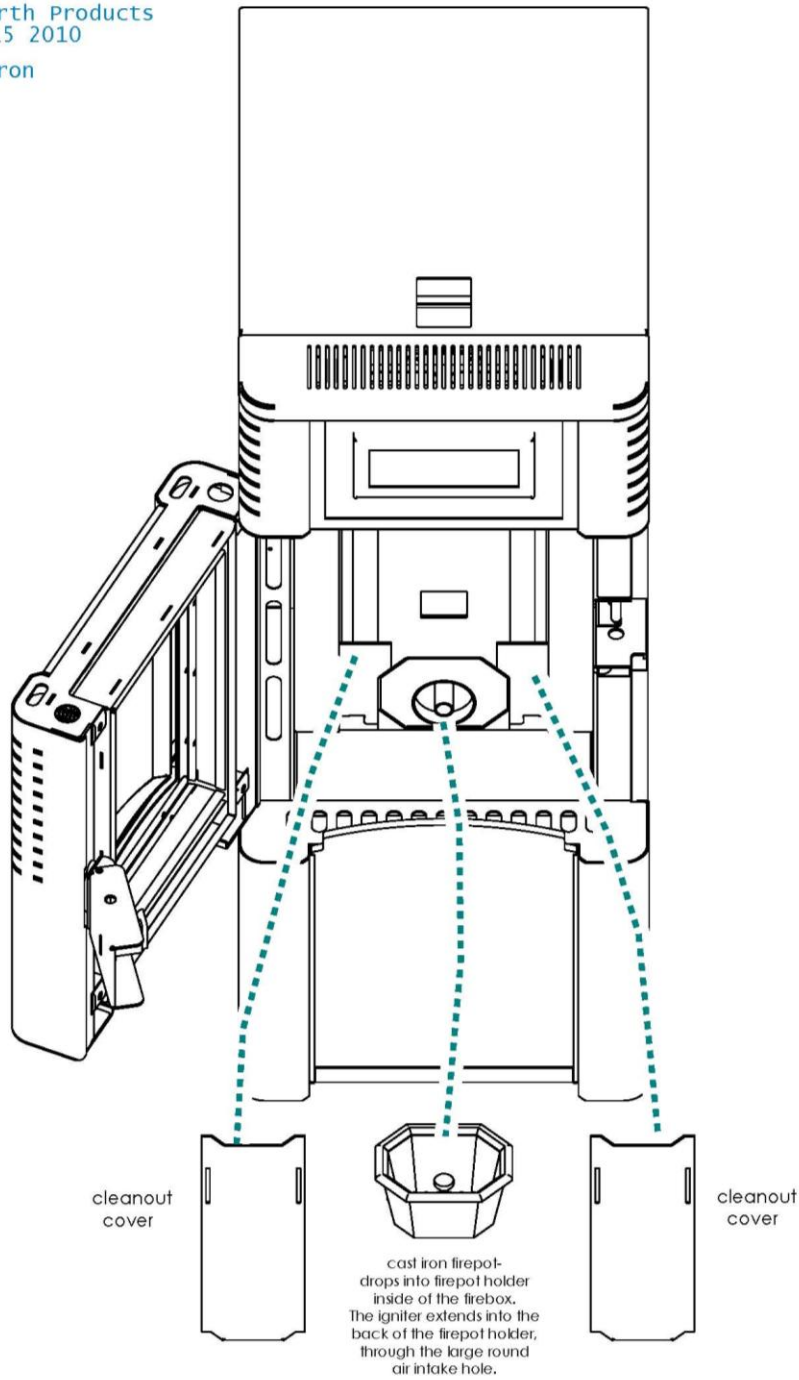

FIGURE 13
2. Remove the two rear left and right clean out covers and clean with a wire brush. Figure 13.
5. Empty the ash pan and vacuum below and behind where it is seated in the firebox. See Figure 13.